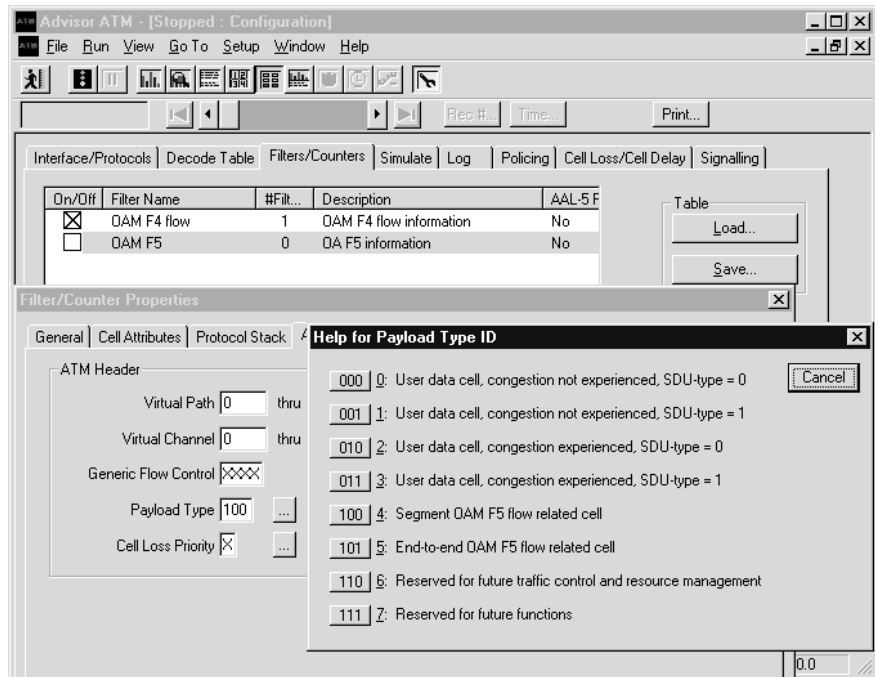

Figure 6. Setup of OAM-F4 and OAM-F5 filters with the Agilent Advisor ATM
To use the Advisor to analyze the ATM layer F4 and F5 OAM flows, you can set up custom filters/counters that will cause the Advisor to capture and gather statistics on only those cells. Go to the Filters/Counters folder in the Configuration view, and click the Add button to add a new filter/counter. When prompted, click No to whether this is to be an AAL-5 PDU filter. When the Filter/Counter Properties dialog is displayed, set the necessary parameters (press F1 for online Help). To configure the filter/counter for OAM flows, go to the ATM folder and set values that correspond to F4 and F5 cells. For example, F4 segment cells are always transmitted on VCI 3, F4 end-to-end cells on VCI 4. F5 cells, on the other hand, are identified through the Payload Type field (PT). PT 100 identifies F5 segment cells, PT 101 F5 end-to-end cells. This set up is shown in Figure 6. When you start the monitor run, statistics related to the filters/counters you set up will be displayed in the Filters/Counters Statistics view.